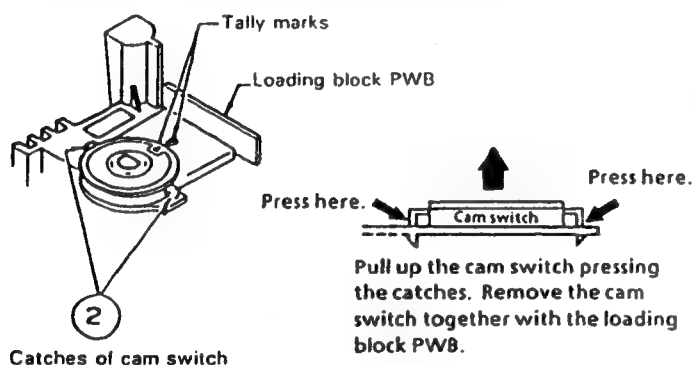

Figure 1-70.
1. Unsolder the leads ① from the loading motor.
2. Unlock the left and right catches ② of the cam switch off the loading block. Take out the cam switch and loading block PWB (See Figure 1-70).